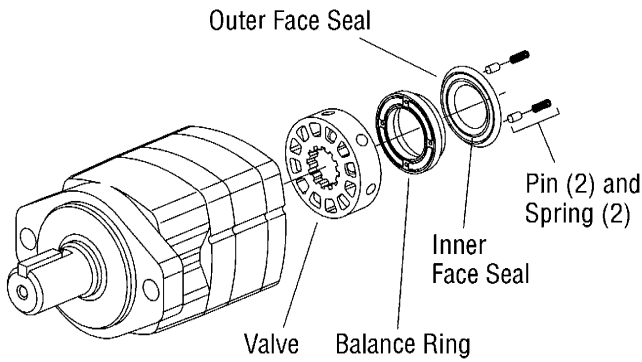

Figure 5
- 6** Remove 2 pins and 2 springs from balance ring assembly, see Figure 5.